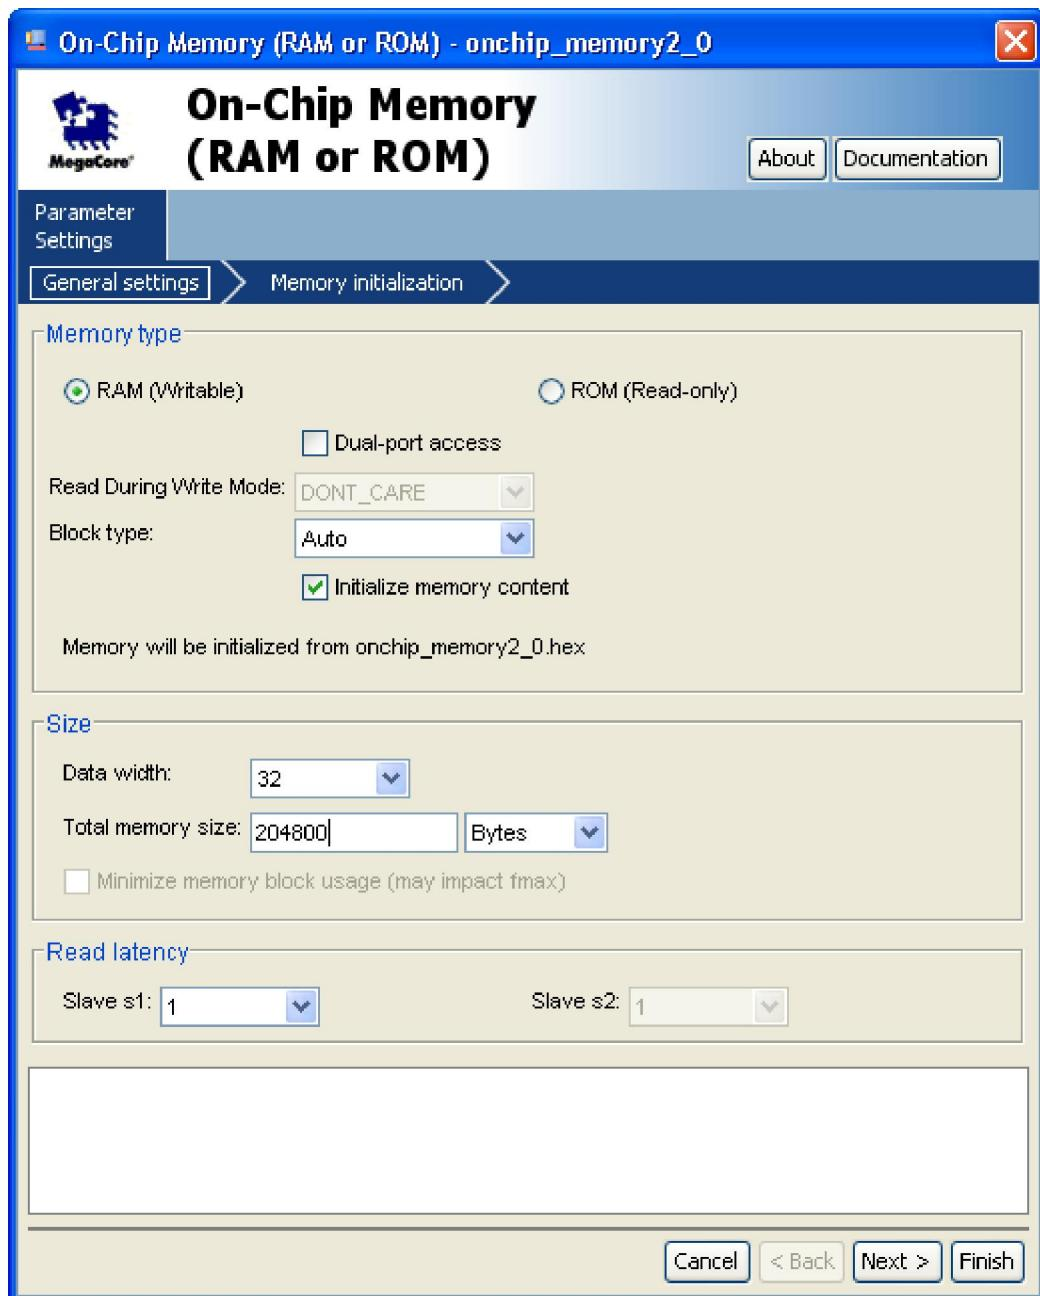
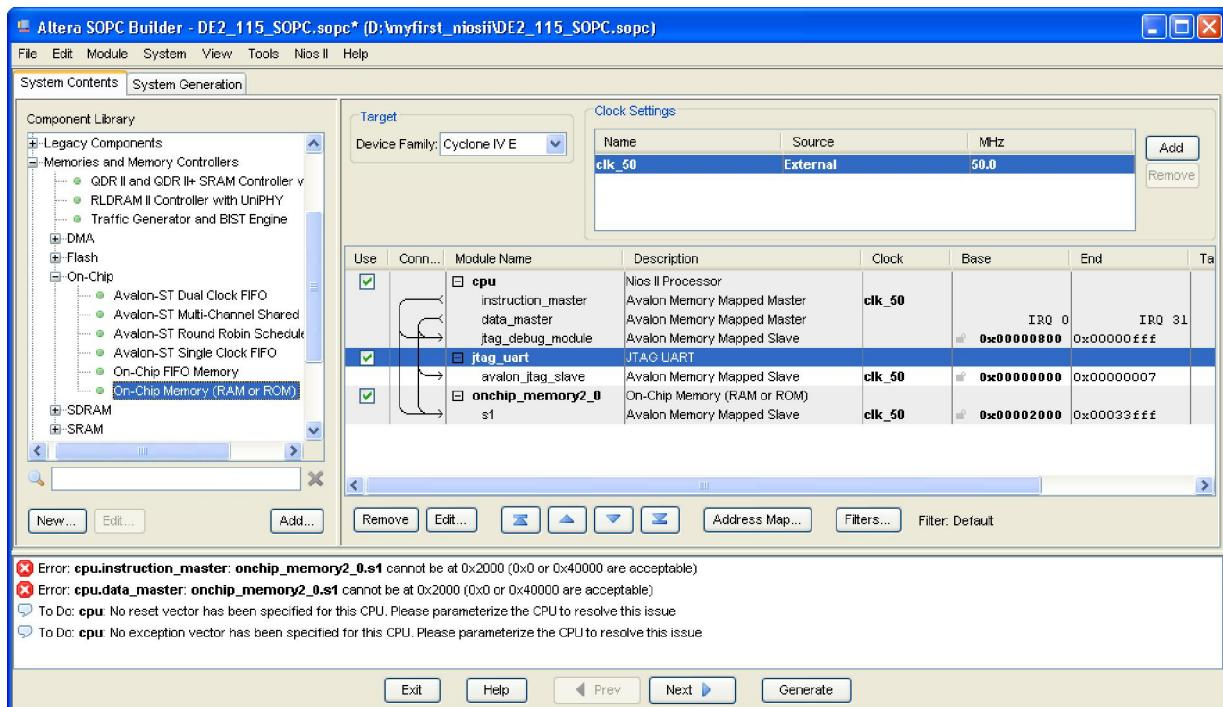

Figure 1-25 Update Total memory size
Figure 1-26 Add On-Chip memory Completely
16. Modify **Total memory size** to **204800** as shown in Figure 1-25. Click **Finish** to return to the window as in Figure 1-26.